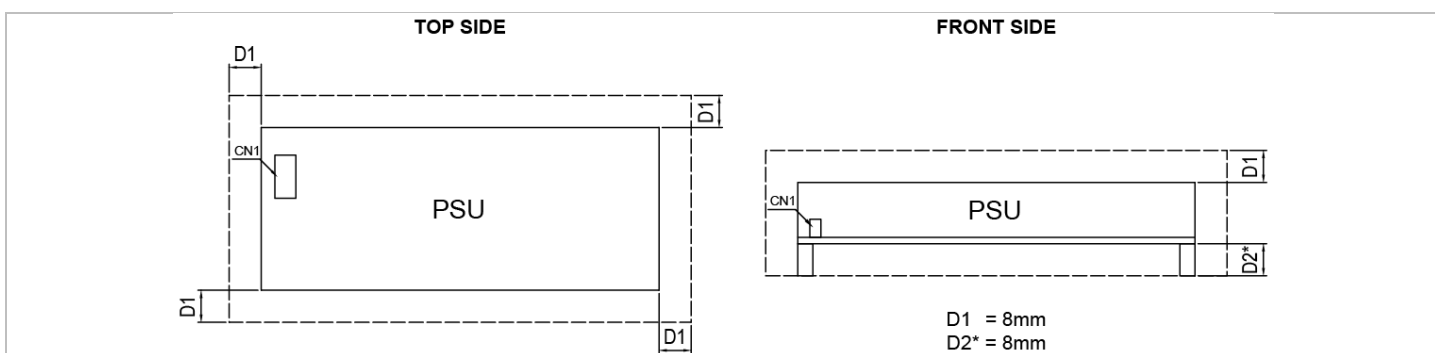

Fig. 3 Assembly Reference
- For safety reasons, please ensure the mounted device is kept at  $\geq 8$  mm (0.31 inch) safety distance at all sides from other components and equipments (Refer Fig. 3). Please insert an insulation sheet between the system and product, if the safety distance is less than 8 mm for D2\*.